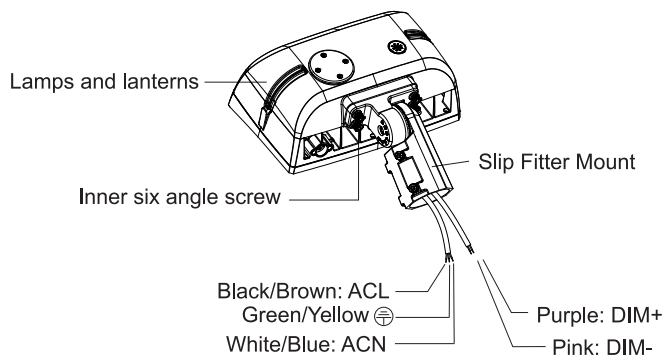

figure 2.3
Step 2: Finish the wire connection according to the right mode of connection (pay attention to positive wire, negative wire, and ground wire), and then put wire into lamp pole;(figure 2.3)